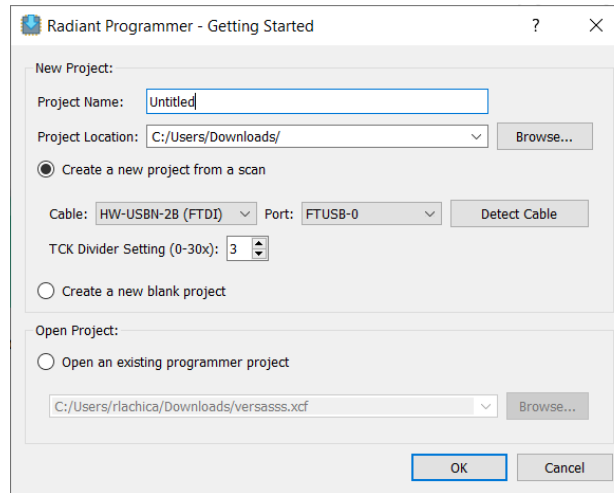

Figure 3.3. Stand-alone Radiant Programmer Opened from Windows Start Menu
- If the Radiant project is already opened in Lattice Radiant software, click the Radiant Programmer icon  from the toolbar. If the project is not opened, click the **Windows Start** menu and choose **Radiant Programmer** to open the stand-alone Radiant Programmer. The **Radiant Programmer - Getting Started** dialog pops up (Figure 3.3). The default project name is **Untitled**. Enter a desired project name and browse to choose the project location from the **Project Location** area. Click OK.